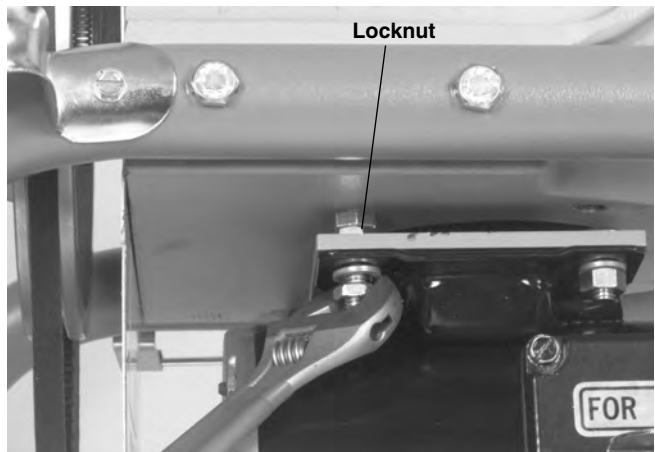

Figure 15 – Adjusting V-Belt Tension
- Loosen locknut, turn adjusting bolt slowly until V-Belt stiffens, tighten locknut. (Figure 15).